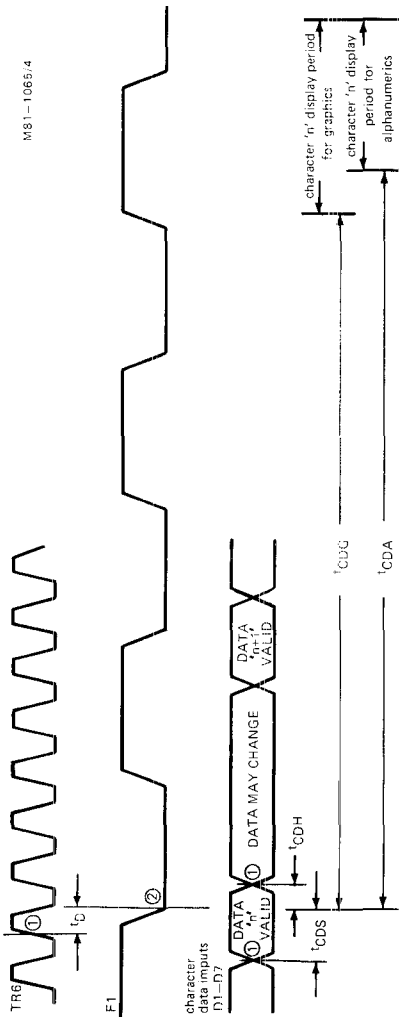

Fig.4 Character data timing (for typical 40 character display)
*Timing characteristics*For typical display of 40 characters per line. Line rate = 64 μ s. Field rate = 20 ms.**Character data timing (Fig.4)**